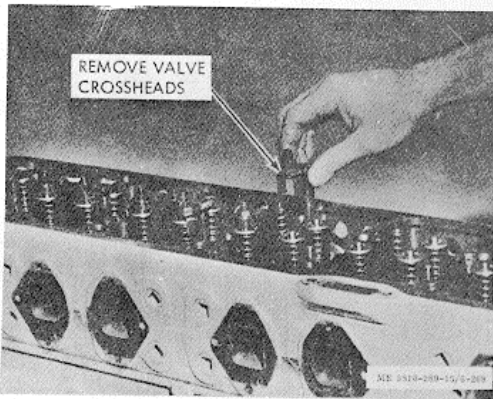

Figure 3-259. Valve crossheads removal.
(1) Lift valve crossheads from crosshead guides, figure 3-259. In some cases these may be left in cylinder head and the complete unit sent to the head repair section.
(2) Remove crosshead guides to be replaced,